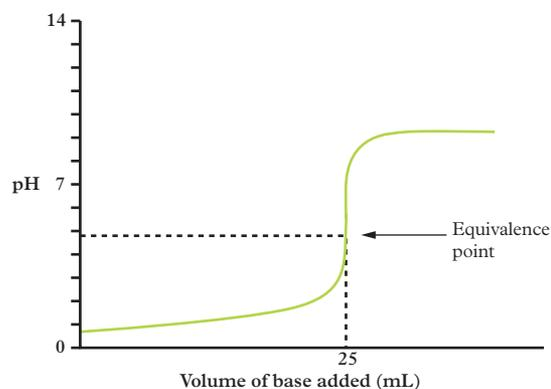

FIGURE 3 A titration curve
- 24 Analyse the titration curve in Figure 3.